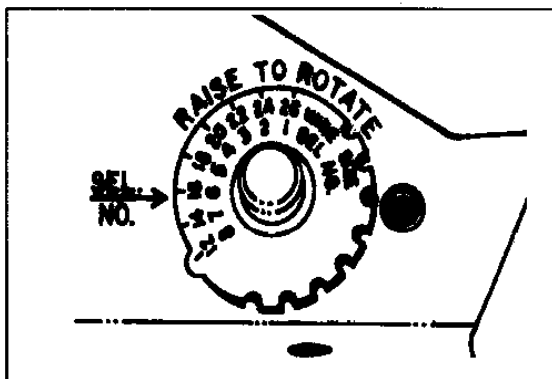

Figure 37 Rotate Selector Knob
2. Raise Crimp Tool (Deutsch HDT-4800) selector knob and rotate until arrow is aligned with wire size to be crimped (Figure 37).